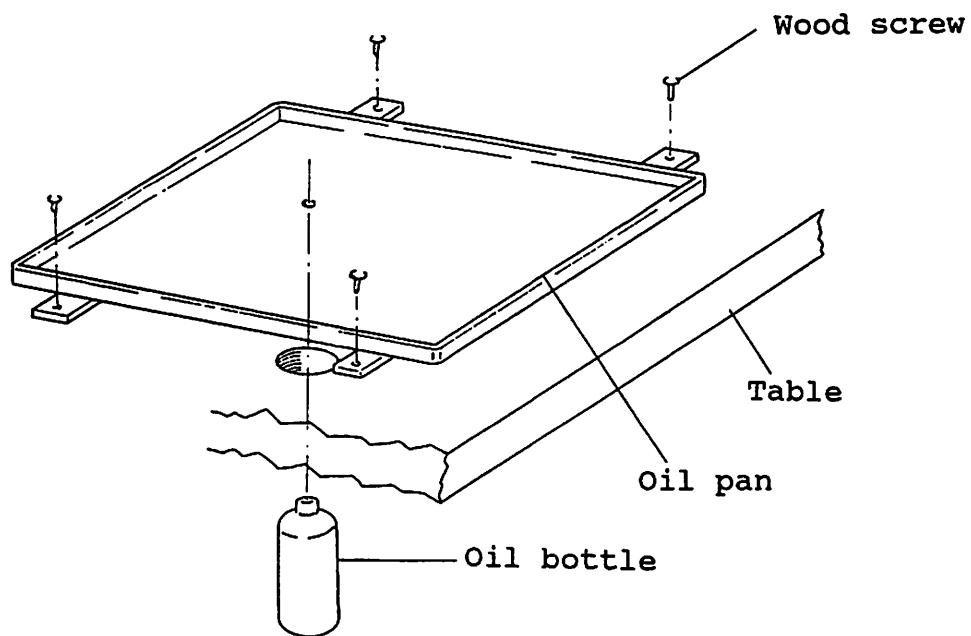

Fig. 4.5
- (1) Insert the accessory head rest into the corresponding holes provided on the table.
- (2) Insert the two hinges (B) into the machine head which has been removed from its packing box.
- (3) Place the head on the table so that it rests on the six rubber pads and two hinges.
- (4) Remove the handles provided in the machine head. Bear in mind that when the machine is tilted on its side with the handles still attached, the bolts in the handles will make contact with the table.
- (5) Tilt the machine on its side, and pass the air tubes down through the hole in the table.
- (6) Install the accessory oil pan as shown in Fig. 4.5, and secure it using the wood screws (4 units) in line with the holes which have been prepared on the top of the table.
- (7) Install the V belts provided and return the machine to its original position.
- (8) Mount the special bolt for the belt cover (large) at the rear of the machine.
- (9) Secure the accessory belt cover (large) to the machine using the screws provided.
- (10) Secure the accessory belt cover (small) to the table using the wood screws (3 units).